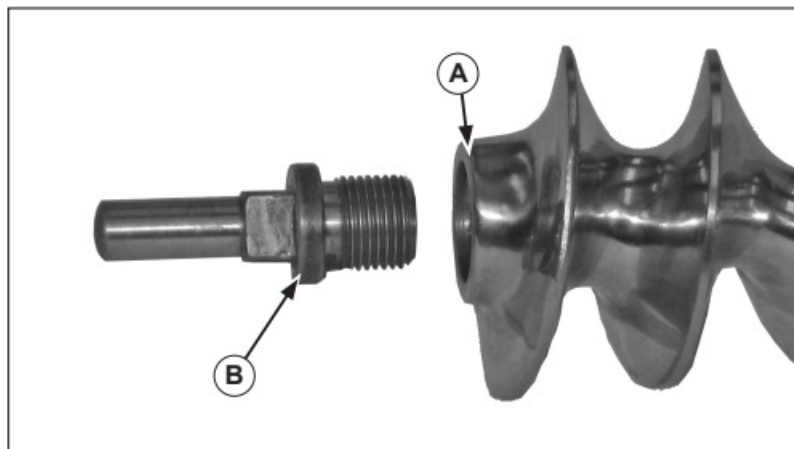

Figure 1. Blade Shaft and Worm Gear
3. If necessary assemble the blade shaft (B) into the worm gear (A). See Figure 1.